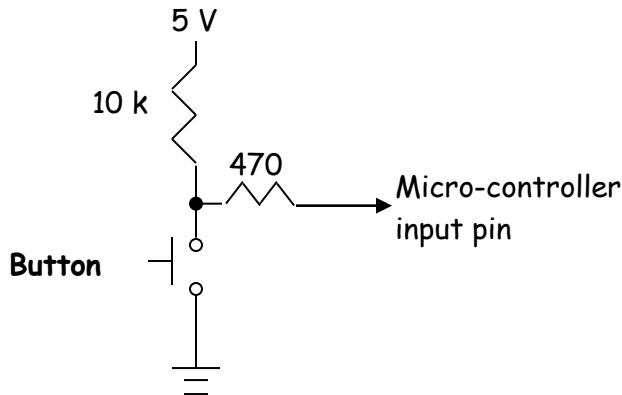

Figure 2.7 - Circuit diagram for push button (active low)
2. the "push button circuit" x 2 - Figure 2.7/2.8